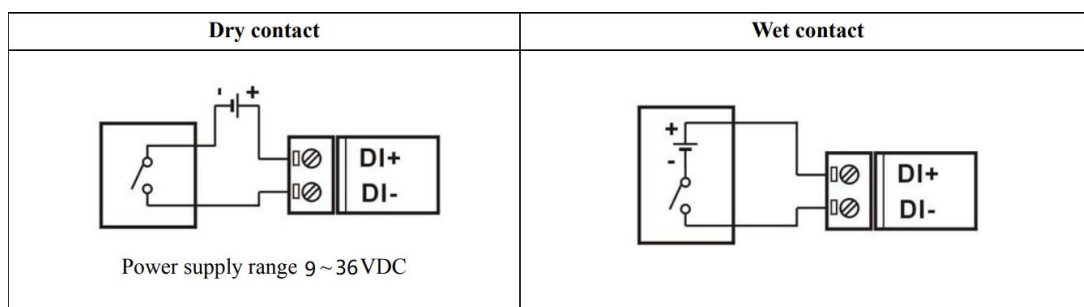

Fig. 3 Dry/Wet contact wiring
The left picture in Fig.3 shows an example of digital input (DI) dry contact in which the digital input channel is controlled by a switch that is wired to the COM pin of the DI port. An external DC power(9~36V) is supplied this external circuit via the wiring of DI pin and the switch. The position of switch and power supply can be interchanged.
The right picture in Fig.3 shows an example of digital input (DI) wet contact in which the digital input channel.